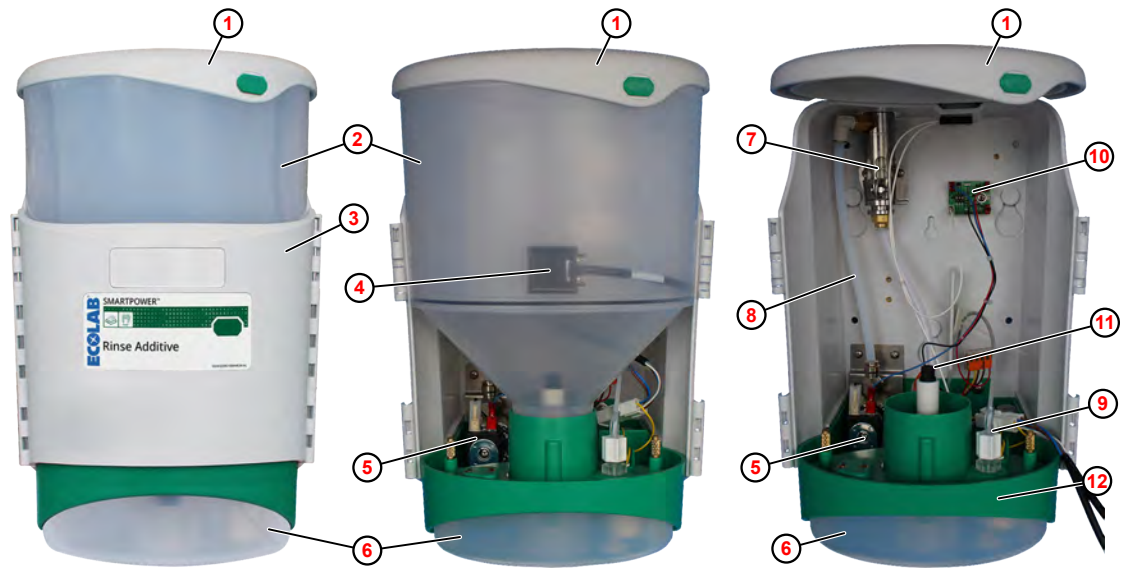

Fig. 1: Design
The SMARTPOWER™ Rinse Dispenser is an automatic dispenser for Ecolab pressed rinse aid products. It essentially consists of a base (Fig. 1 , ⑫), a product cylinder with product feed ② to accommodate the pressed rinse aid ⑤ , a solenoid valve, a system separator ⑦ and a spray nozzle ⑪ . To improve the rinse aid concentration and concentration consistency, the clean water can be dispensed in pulse mode with a Rinse-Pulse-Timer board ⑩ .
After opening the front flap ③ and removing the product cylinder Fig. 1 , all parts are freely accessible for assembly, maintenance and repair.